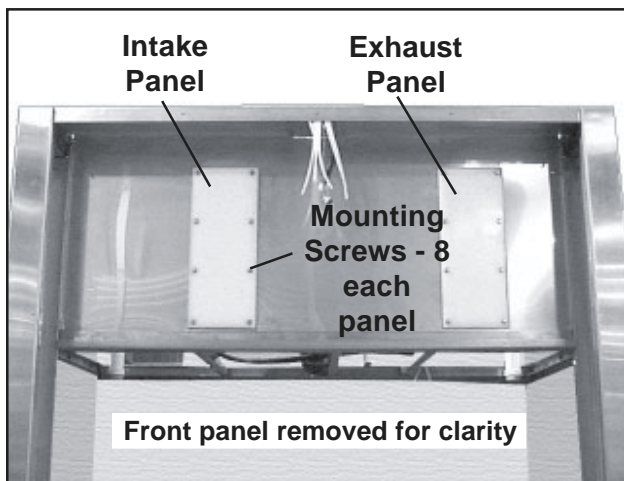

Figure 98. Polyethylene Panels
There is one polyethylene panel on each blower box (Figure 98). The two panels are identical and either can be used on either blower box. These removable panels provide easy access to the interior of the blower box to allow changing the HEPA filter.
2. With a flat-blade screwdriver, remove the eight screws on the polyethylene panel (Figure 98), and remove panel.
3. Replace the polyethylene panel and loosely insert the eight screws (Figure 98).
5. With a flat-blade screwdriver, remove the eight screws on the polyethylene panel (Figure 98) and remove the panel.